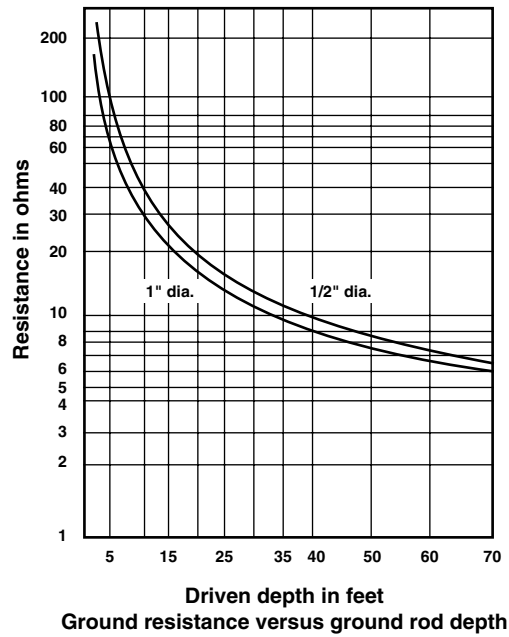

Figure 11
Depth: As a ground rod is driven deeper into the earth, its resistance is substantially reduced. In general, doubling the rod length reduces the resistance by an additional 40% (Figure 11). The NEC (2008, 250.53 (G)) requires a minimum of 8 ft. (2.4m) in contact with the soil.